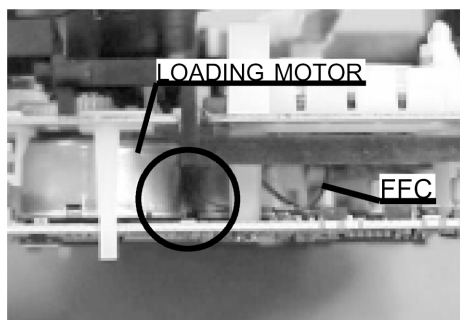

Fig.3-4
- 3) Ensure that the FFC of the pick-up is not pinched between the LOADING MOTOR and the PWB. (Fig. 3-4)